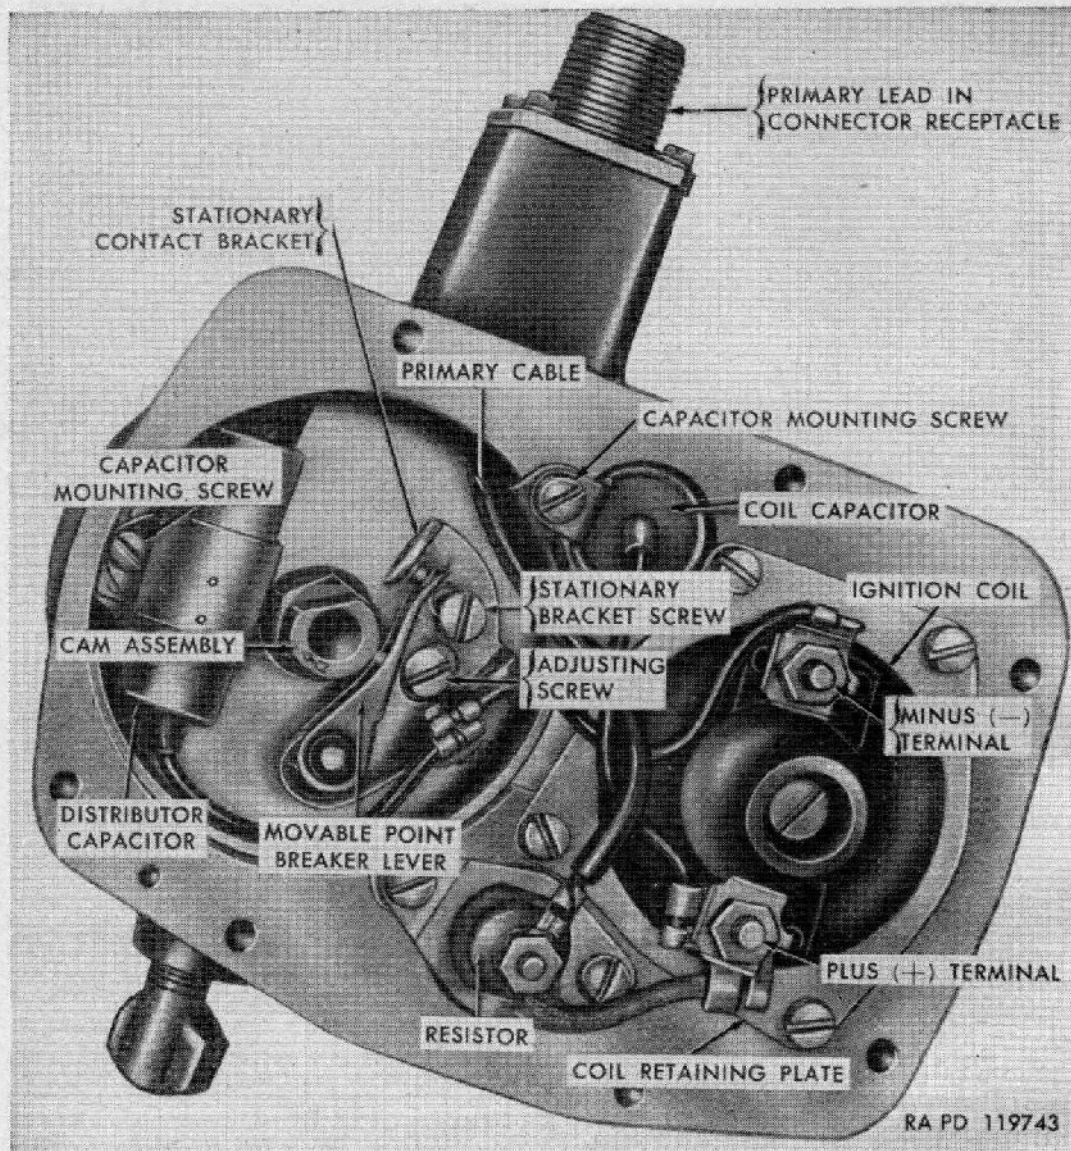
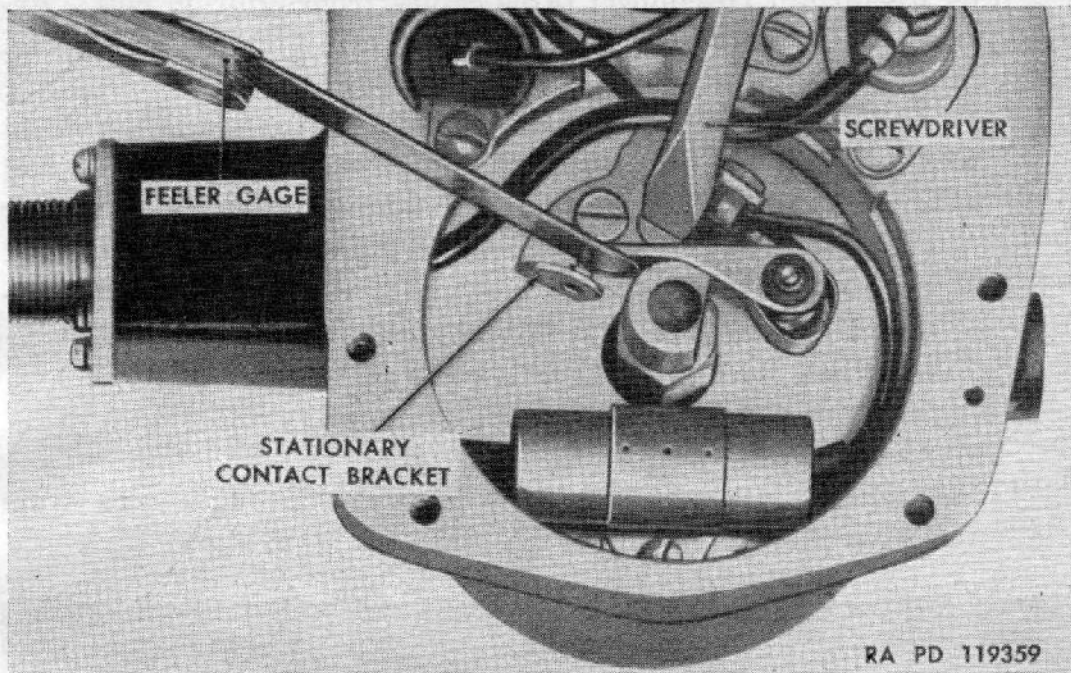

Figure 71. Distributor with cover removed.
Figure 72. Setting distributor breaker point gap.
a. DISTRIBUTOR (fig. 71).
(1) *Setting breaker point gap* (fig. 72).
- (b) Check the gap with a 0.022-inch feeler gage (fig. 72). To adjust gap, loosen stationary bracket screw near end of stationary contact bracket and turn adjusting screw (fig. 71) to obtain correct setting. Tighten stationary bracket screw.
- (b) *Removal.* Disconnect two cables from stationary contact bracket. Lift movable-point-breaker lever (fig. 71) from pivot pin.
- (a) *Removal.* Disconnect capacitor cable from connection on stationary bracket support and remove capacitor mounting screw (fig. 71) and lock washer.
(1) *Removal.* Disconnect three cables from ignition coil. Remove four screws from ignition coil retaining plate (fig. 71), remove plate, and lift out coil (fig. 74).
(2) *Installation.* Place a new ignition coil gasket in recess in distributor housing and install ignition coil. Note that coil must be placed with the plus (+) terminal near the resistor (fig. 71). Install clamp plate and secure with four screws. Connect resistor cable and capacitor cable to plus (+) terminal. Connect cable from stationary bracket to minus (-) terminal. Install cover with a new gasket.